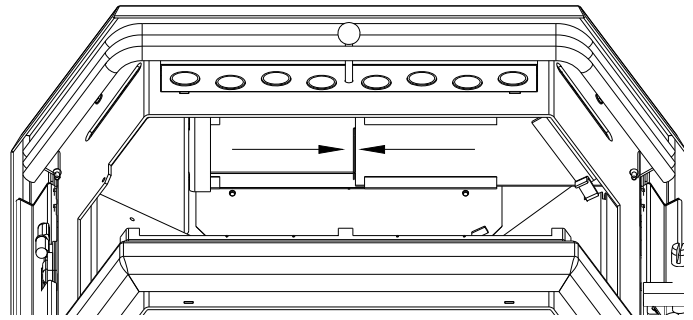

Figure 47
- b. Open the door and remove the baffle from the firebox. Slide each side of the baffle toward the center to remove (Figure 47). Close the door.
- b. **Baffle:** Remove the baffle and scrape off ashes. Slide both sides toward the center to remove the baffle(Figure 47) Use a vacuum is necessary. In some cases, you will need to remove creosote on the baffle, which can accumulate rapidly under certain conditions. A small wire brush can be used. It is important to remove this creosote because it is highly combustible and could cause premature corrosion.